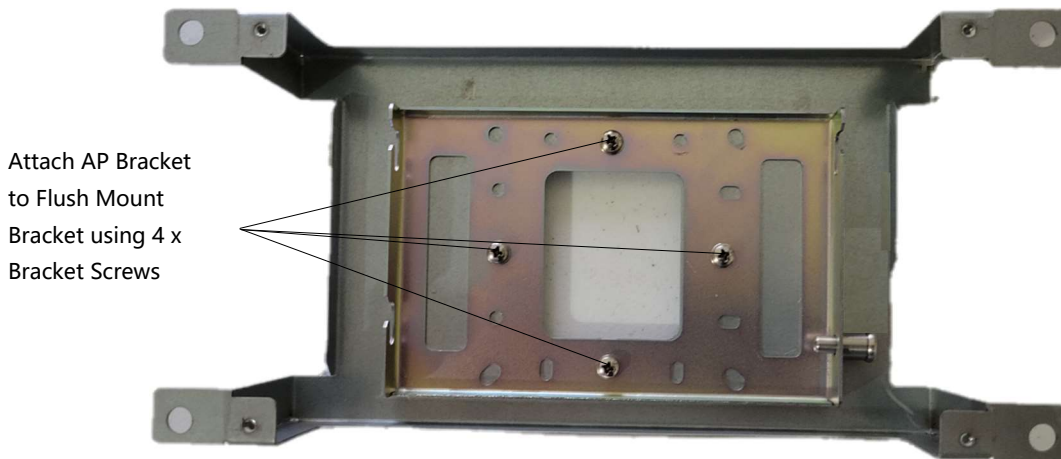

Figure 32: APV3-DAS - Mounting Standard Mounting Bracket to Flush Mount Bracket
- Install the APV3-DAS standard mounting bracket into the flush mount bracket using the (4) screws removed in the previous step. Ensure the standard mounting bracket is installed with the Spring-loaded Pin Lock on the right side. See figure 32 below.